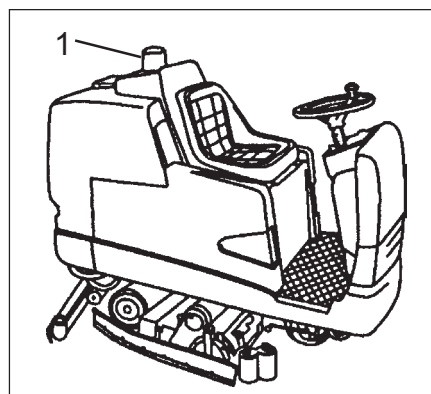

Figure 5
Blinking Light (see figure 5, item 1).